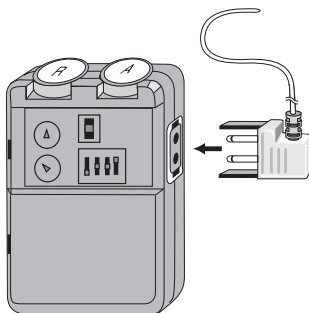

Figure 27. Connect screening cable and test stimulator.
4. Push the plug end of the screening cable into the test stimulator output jacks (Figure 27).